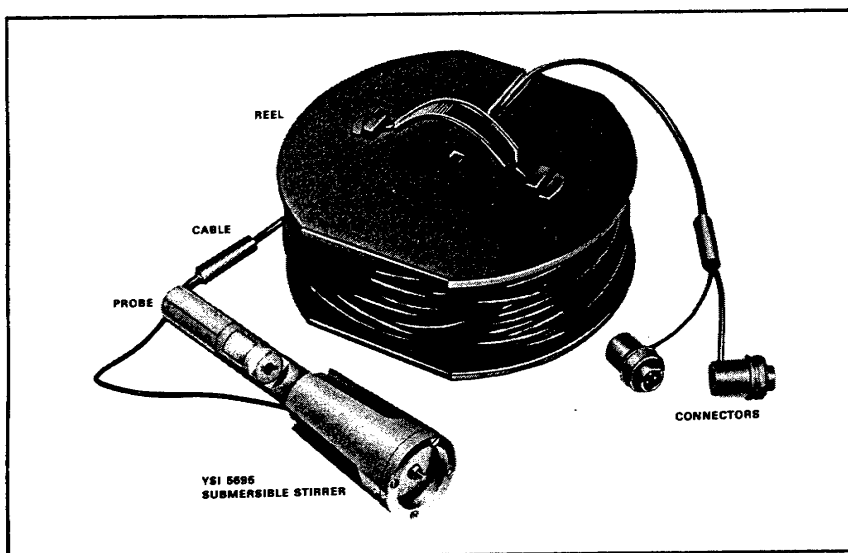

Figure 2 - YSI 5695 Submersible Stirrer with reel and cable.
- YSI 5695 Submersible Stirrer for the YSI 5739 D.O. Temperature Probe and the YSI Model 56 Dissolved Oxygen Monitor. The stirrer comes with attached 50' cable to connect stirrer to instrument (12 VDC power supply) and to connect YSI 5739 D.O. Probe to the instrument. (See Figure 2.)
- YSI 5675 Monitoring Probe Service Kit. Includes (30) 0.002"-thick FEP, half sensitivity membranes; KCL solution 30 ml; probe service tool and monitor service instructions for the 5739 probe.
The YSI Submersible Stirrer (see Figure 2) agitates the sample adjacent to the probe membrane providing a continuous, fresh sample to the probe. The stirrer should be used where a steady sample flow rate of at least 1 foot per second is not provided by existing sample flow.